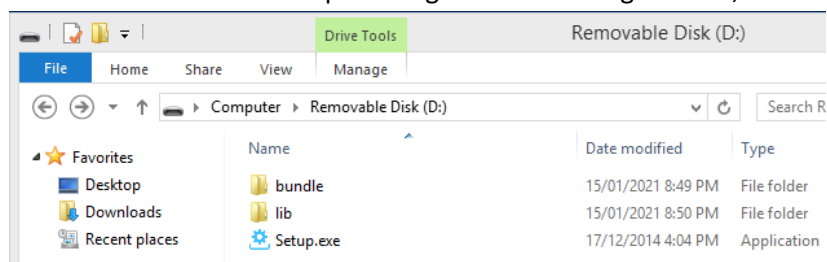

Figure 4 - Installation Files
2. Extract “AMPMK-CertificatePatch2022.zip” to target CNC or storage device, as shown in Figure 4.